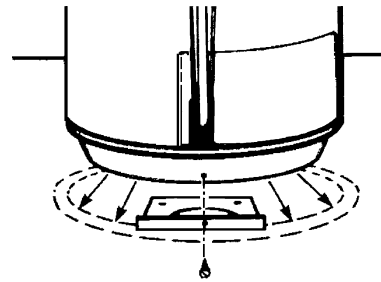

FIGURE 11.
4. Set the water heater in place against the lip of the duct assembly as shown in Figure 11.